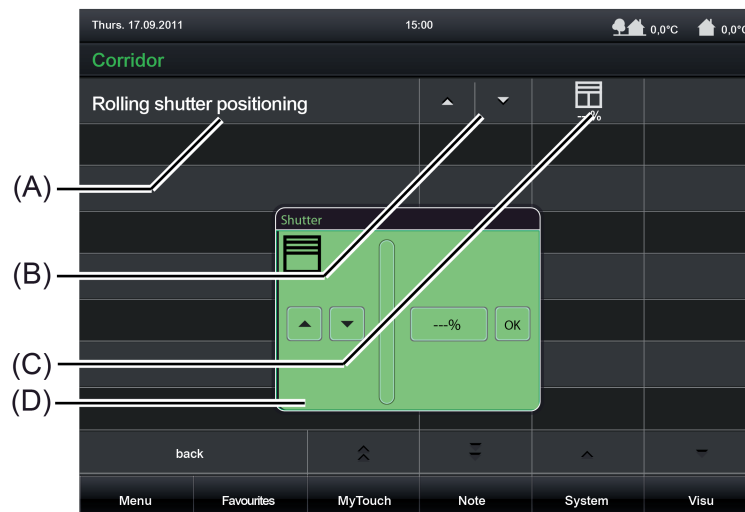

Figure 25: Example of operating and display elements of the function "Rolling shutter positioning"
The display area contains different display elements (Figure 25) that are influenced by parameters. A name can be assigned to each KNX function in the configuration software (A). The sensor surface for direct operation (B) displays two buttons, or depending on the configurations in the configuration software, which trigger value telegrams "100%" or "0%" (after a brief touch) or position telegrams in gradual intervals (after a long touch) when they are